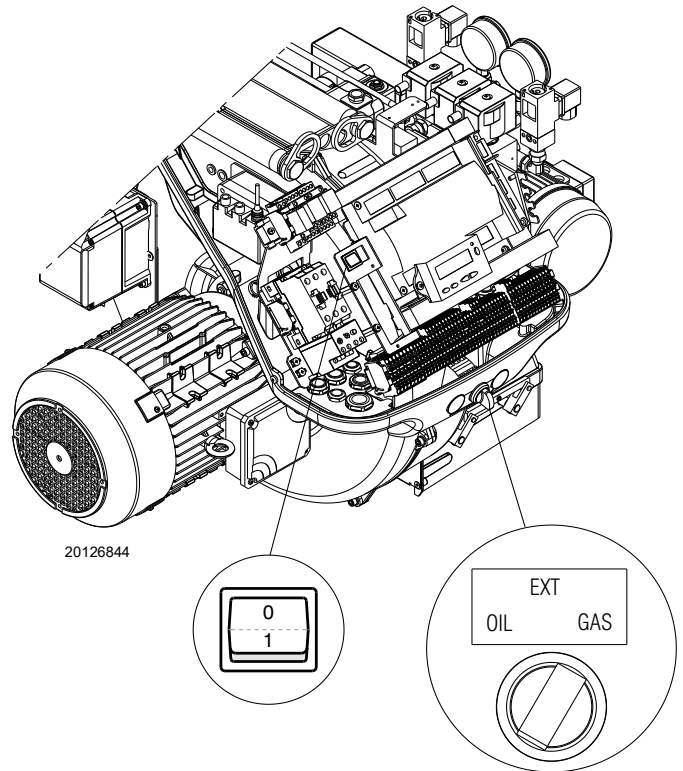

Fig. 40
- Close the thermostats/pressure switches and turn the switch of Fig. 40 to position “1”.
- Put the switch to the “OIL” (Fig. 40) position for light oil operation and “GAS” for gas operation.
- 1 with the “OIL-EXT-GAS” selector (Fig. 40);